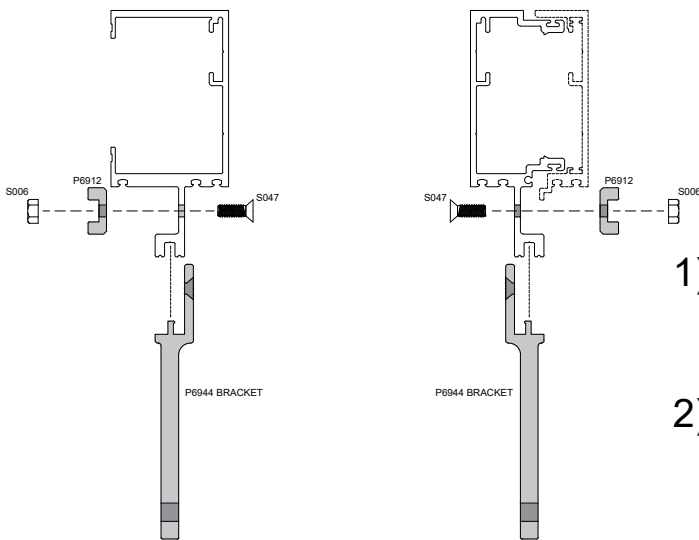

FIG. 16.2
- 2) Install bracket P6944 sun shade bracket, P6912 backer bar and S047 bolt and S006 nut. FIG. 16.2.